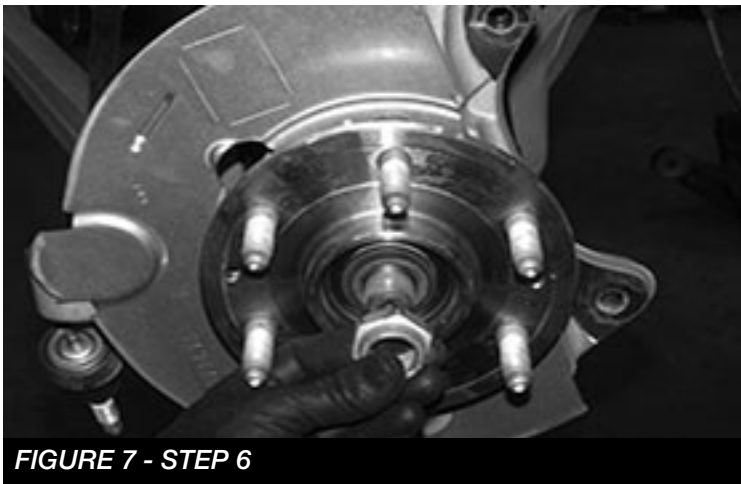

FIGURE 7 - STEP 6
6. Remove the axle nut and washer, save for re-installation. **SEE FIGURE 7**